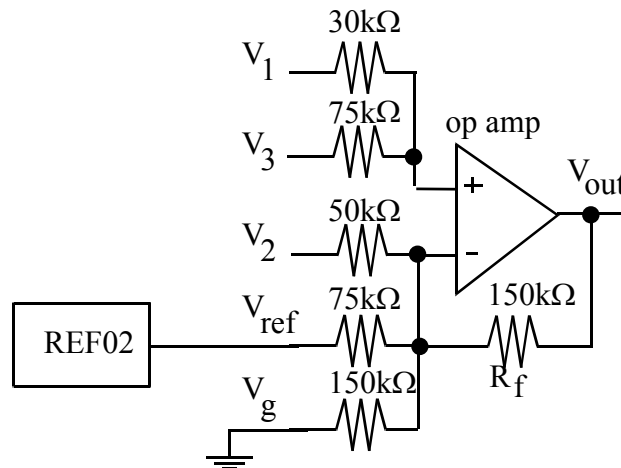

Figure 11.15. A linear op amp circuit.
- A design problem like Figure 11.15 will be on Quiz2